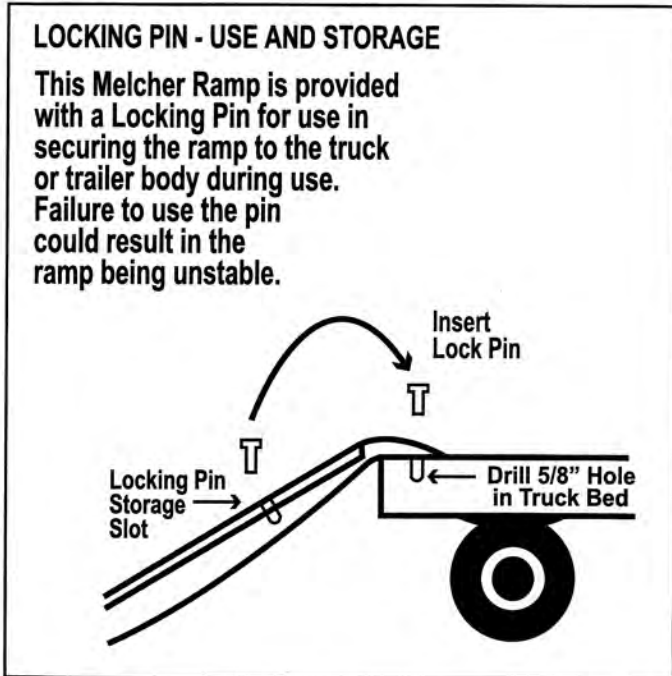
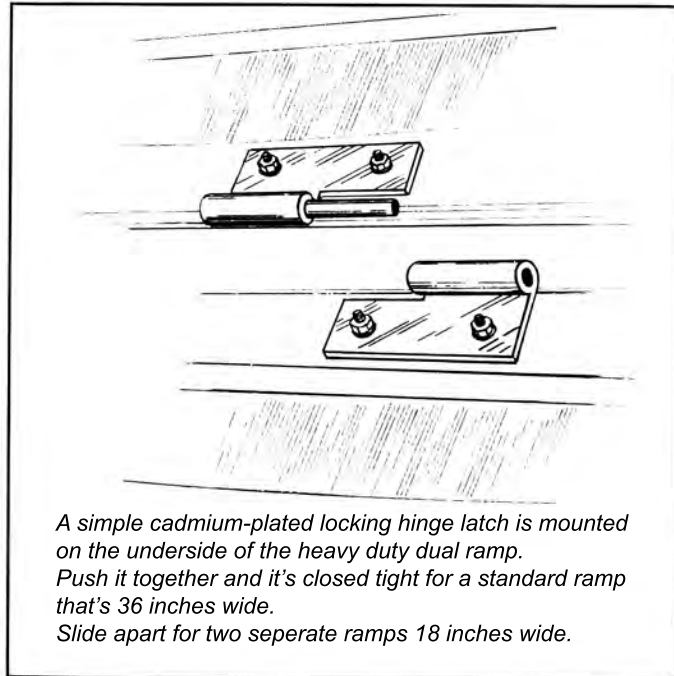

Figure 1
Figure 2
(See figure 1)
8. When using Dual ramps for foot traffic, they must be connected with the locking hinge pin device. (See figure 2) and pinned to the vehicle (See figure 1)